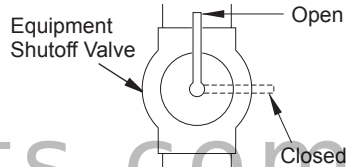

Figure 18 - Equipment Shutoff Valve
1. Close equipment shutoff valve (see Figure 18).
1. Open equipment shutoff valve (see Figure 18, page 15).
- Close equipment shutoff valve (see Figure 18, page 15).